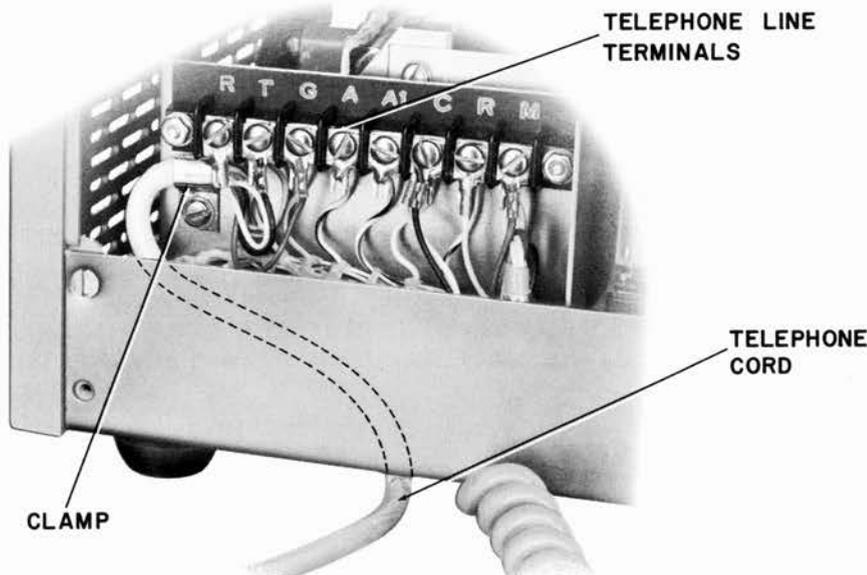

FIGURE 2 TELEPHONE CORD INSTALLATION
2. Run 2, 3, 4, or 5 conductor cable (as required) through hole in bottom pan and secure with cable clamp, 6-32 screw, and lock washer as shown in fig. 2. (Cable and hardware are not supplied with the Model 200A.)